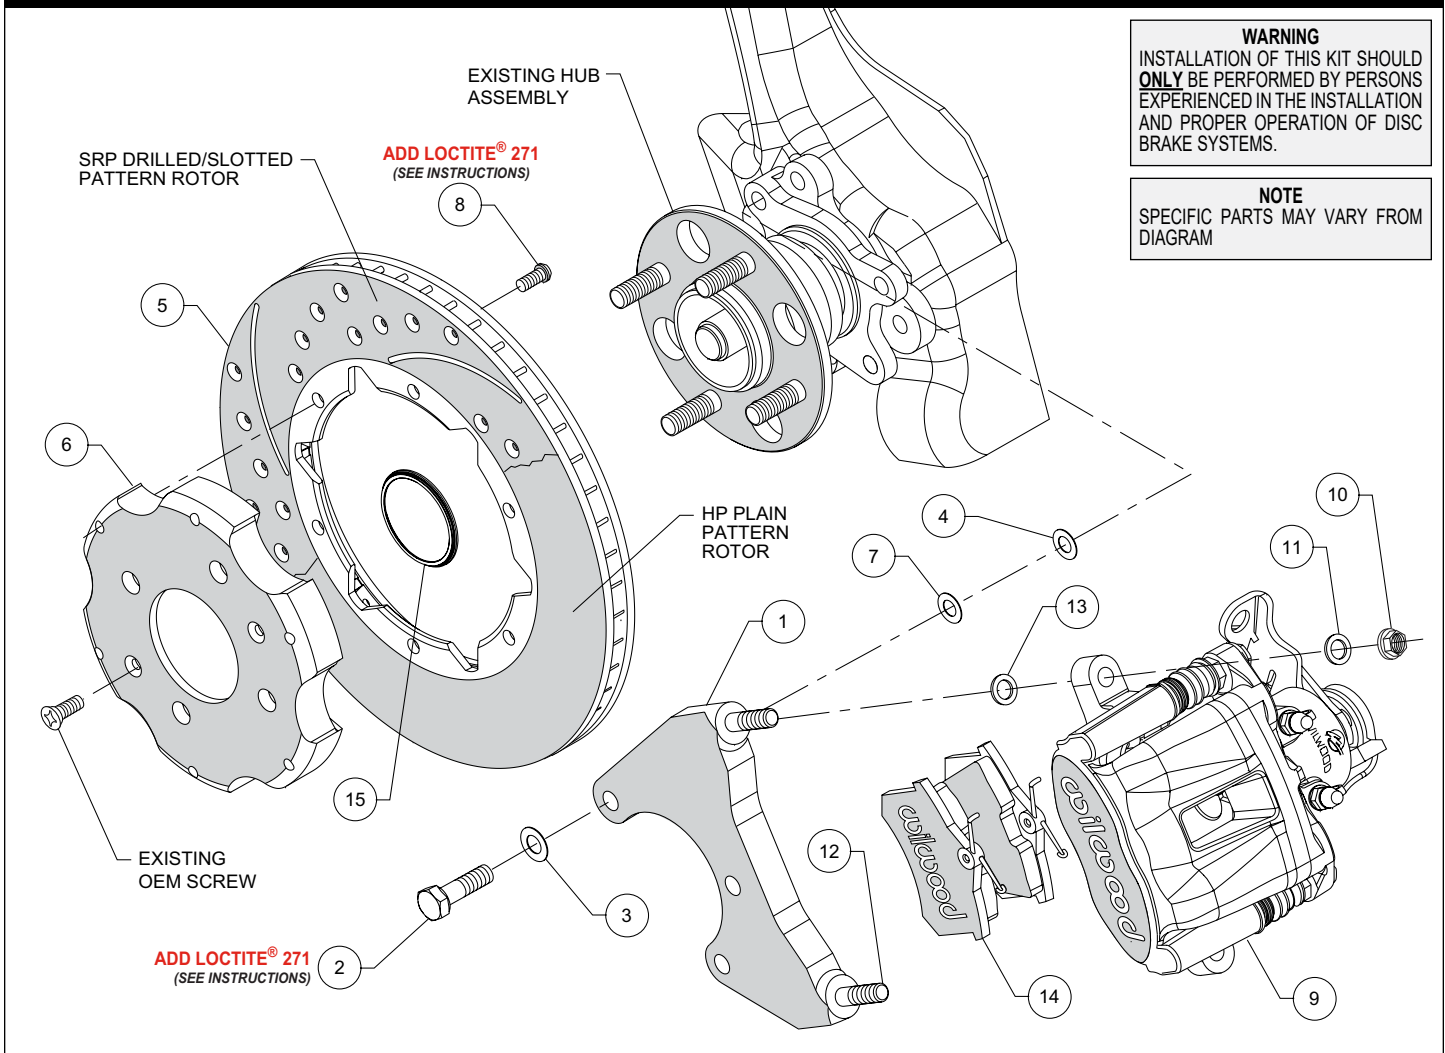

Figure 1. Typical Installation Configuration
- The caliper mounting bracket (1) should initially be installed with clean, dry threads on the mounting bolts. Orient the bracket as shown in Figure 1, and install using bolts (2) and washers (3). Initially place two .030" thick shims (7) between the bracket and upright, Figure 1 and Photo 1. Temporarily tighten the mounting bolts. **NOTE: The bracket must fit squarely against the mount bosses on the upright.** Inspect for interference from casting irregularities, machining ridges, burrs, etc. Later, after the caliper alignment has been checked, the mount bolts will be secured using red *Loctite*® 271.
- Orient the rotor (5) and hat (6) as shown in Figure 1 and Photo 2. Attach the rotor to the hat using bolts (8). Apply red *Loctite*® 271 to the bolt threads and torque to 25 ft-lbs using a criss-cross pattern.
- Slide the rotor registration adapter (15) onto the axle register on the axle hub with the smaller O.D. facing outward, Photo 3.
- Install the brake pads (14) into the caliper (9) from the bottom, with the friction material facing the rotor, until the "v" spring clip snaps into place against the anvil, as shown in Figure 1 and Photo 4. They should install easily without interference.
- Initially place two .035" thick shims (13) on each stud as shown in Figure 1. Mount the caliper (9) onto the bracket (1) using lock nuts (10) and washers (11), Figure 1 and Photo 5. Temporarily tighten the lock nuts and view the rotor from the end of the caliper. The rotor should be centered in the caliper, Photo 6. If not, adjust by adding or subtracting shims (4 and/or 7) between the bracket and the upright. Always use the same amount of shims on each of the two mounting bolts. Once the caliper alignment is correct, remove the bracket mounting bolts (2) one at a time, apply red *Loctite*® 271 to the threads, and torque to 40 ft-lb.